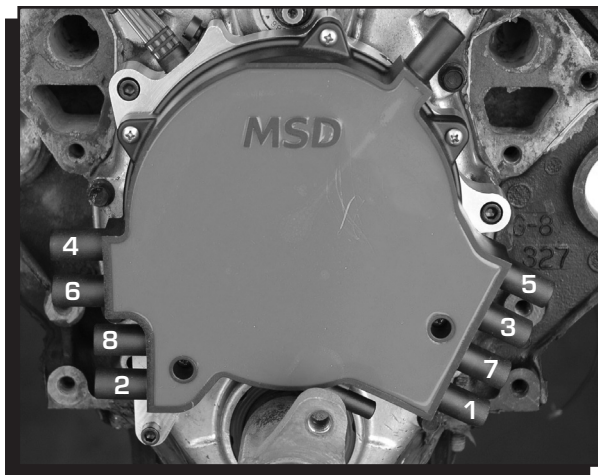

Figure 15 Plug Wire Routing.
25. Install the spark plug wires ensuring they are routed to the correct terminal (Figure 15).